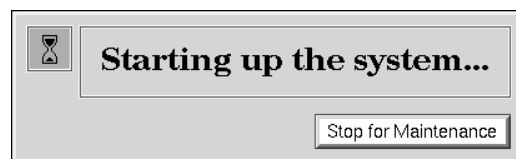

Figure 6-3 Starting Up the System Notifier
4. When you see the notifier shown in Figure 6-3, click *Stop for Maintenance*, or press **<Esc>**.